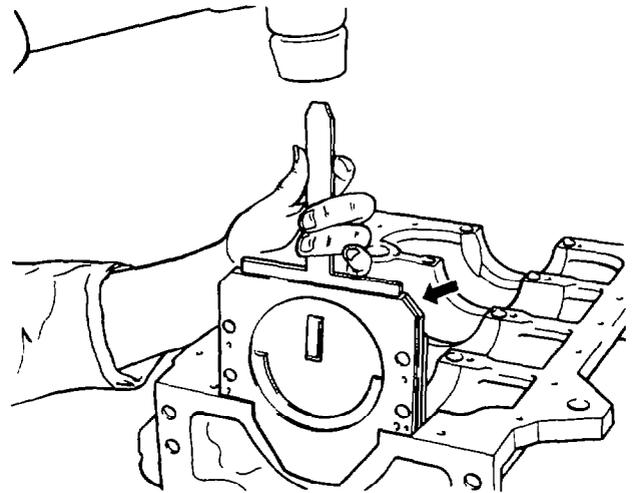

Figure 12 Installation — Rear Main Seal
- e. Use Special Tool No. 3 to fit the rear main seal to the crankcase and rear main bearing cap (see Fig 12); coat the surface of the main seal with multipurpose grease (XG-274).